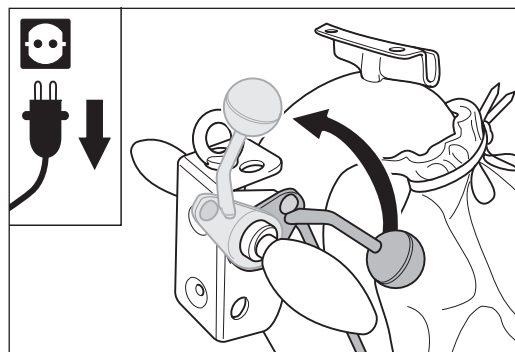

Fig. 39 Lift the sanding drum off the floor by turning the lowering lever at the handle upwards.
- 2 Lift the sanding drum off the floor by turning the lowering lever at the handle upwards (Fig. 39).